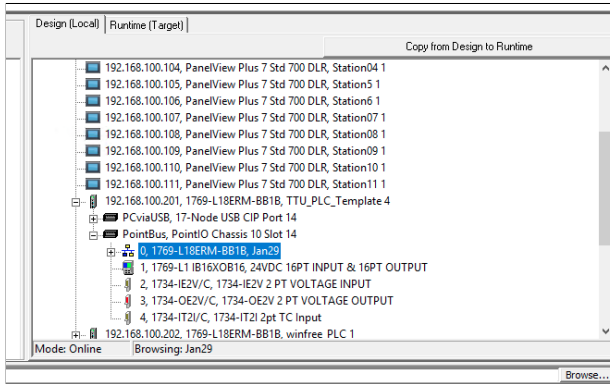

Figure 1.7: PLC Selection in HMI Communication Setup
In the window that opens, navigate to the PLC associated with your lab seat. **Click the plus beside the PLC associated with your lab seat.** **Click the plus beside the item named PointBus.** Now, **highlight the item 0.** Refer to Fig.1.7 for clarification.
—Note 12— In Fig.1.7 the user was sitting in seat number 1. You most likely will not select the same PLC IP address shown in the image. Refer to Table1.1 to verify which IP address is associated with your seat.